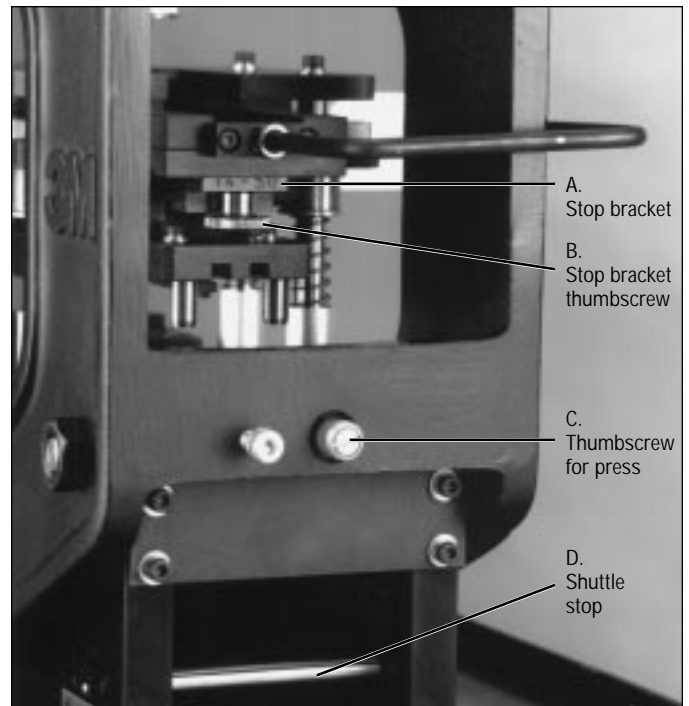
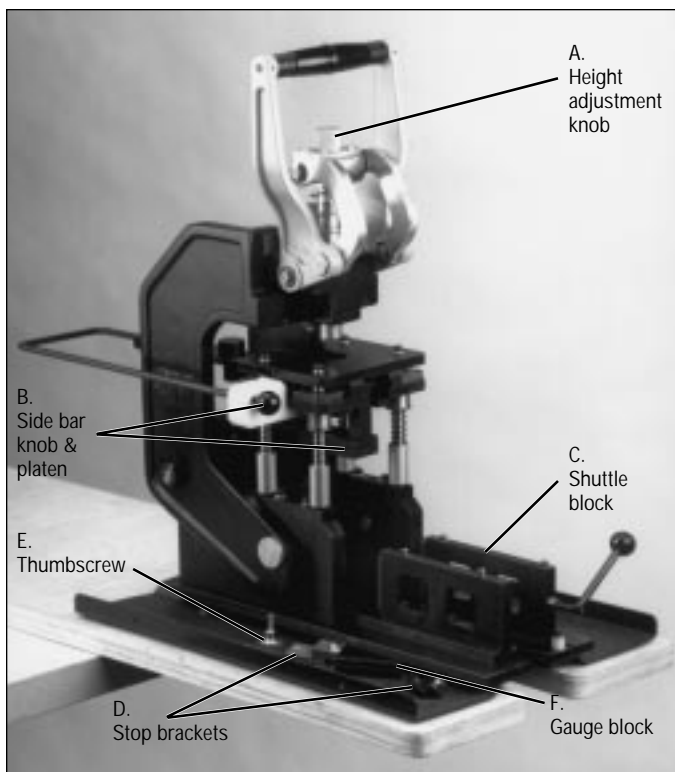

Figure 2. Back of press
Figure 4. 10960-2000 Hand Press
2. Select the 10960-2000 Hand Press and place it in front of the operator so the handle is toward the operator. It is recommended for assembling connectors that the press be positioned in a manner so cable may hang freely below the press when moving the shuttle block (C of Fig. 4).
3. Locate the thumbscrew (C of Fig. 2) at the back of the press. Loosen the thumbscrew and gently lower the armature of the press away from the operator (Fig. 3). This allows easy access to the back of the press to install the cutting unit.
4. Slide the platen assembly forward using the side bar which has a round black knob (B of Fig. 4) on the operator's left side.
6. Locate cutting unit stop brackets and thumbscrew (D & E of Fig. 4). Depending on size of assembly choose stop bracket accordingly. (Black for 14-50 position and Silver for 68-100 position.) Stop brackets are installed using the thumbscrew (A & B of Fig. 2).
8. After installing the stop bracket, position the armature of the press back in an upright position. Tighten the thumbscrew (C of Fig. 2) to hold it in place.
9. Located at the back of the press is a silver, dowel shaped shuttle stop (D of Fig. 2). Set shuttle stop for appropriate connector pin count.
10. Locate the shuttle block (C of Fig. 4) and install fixture unit (Fig. 14) on the guide pins. Push the release buttons on the front of the fixture unit to open the grooved plates.
11. Locate the gauge block (F of Fig. 4). Height adjustment can be accomplished by placing the gauge block, narrow side down, in the fixture unit between the two grooved plates. Close plates manually by squeezing them together.
14. Adjust the silver knob at the top of the press (A of Fig. 4) by hand until the platen lightly contacts the gauge block. Lift press handle up and adjust the silver knob approximately another one-half turn tighter. Pull handle down again. It should lightly lock in place when fully depressed. The platen should apply enough pressure on the gauge block and shuttle to prevent them from moving when trying to slide them out.
- Place the fixture unit onto either the fixture block (Fig. 12) or the shuttle block on the press (C of Fig. 4) with the slot on the fixture unit toward the operator and the cable clamp stop adjustment knob at the rear of the unit, away from the operator.